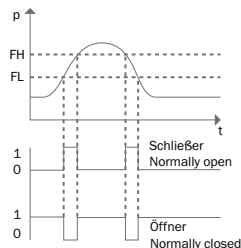

Figure 4: Window function
The window function enables monitoring of a defined pressure range. If the system pressure is between the lower window limit (FL) and upper window limit (FH), the output will be active (normally open, n.o.) or deactivated (normally closed, n.c.) (see Figure 4).